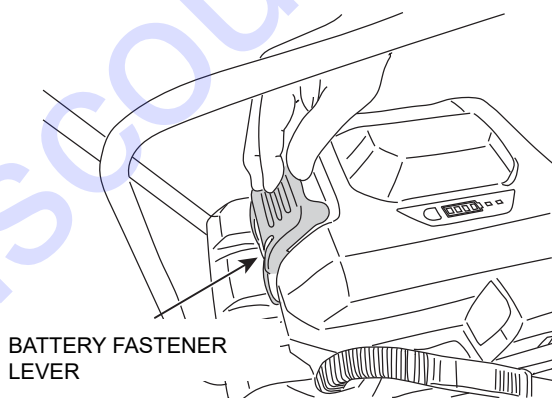

Figure 5. Battery Fastener Lever
3. Push down the battery pack and hook the battery fastener to it (Figure 5).